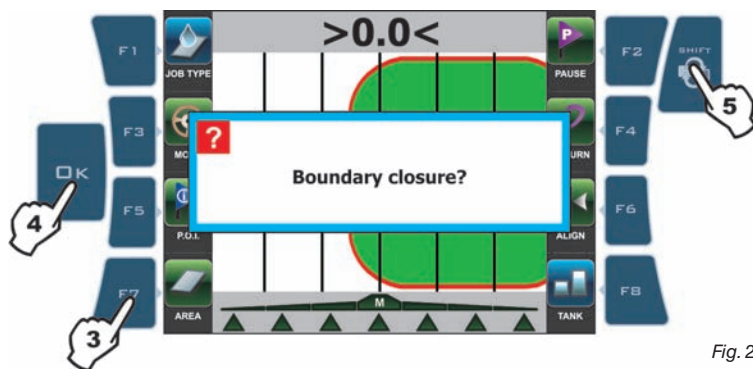

Fig. 246
- 4 Message **Boundary closure?** is displayed. Press **OK** (Fig. 246).